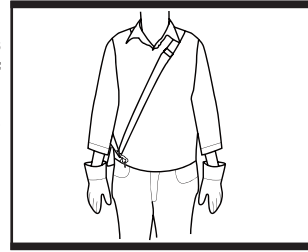

Fig. 2a
- a). Open the securing clip (6) to remove the harness from the loop.
- b). Place the harness so that it runs over the left shoulder, crossing the chest and back. (See Fig. 2a)